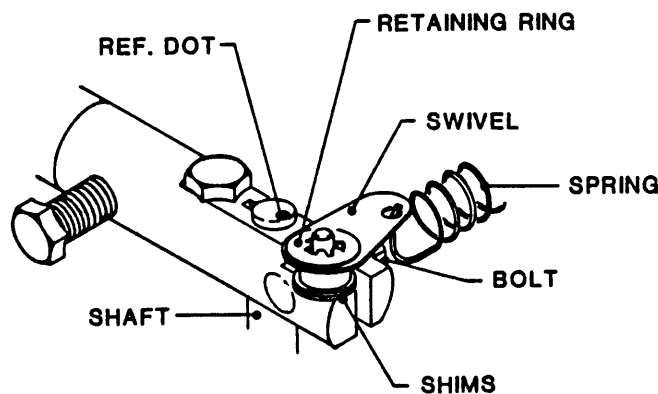

Figure 5-7. Takeup-Arm and Supply-Arm Assemblies
5.3.8 TAKEUP ARM ASSEMBLY (Fig. 5-7)
5.3.9 SUPPLY ARM ASSEMBLY (Fig. 5-7)